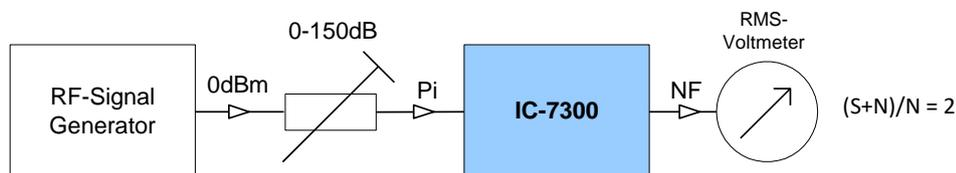

Fig. 1: Measurement setup to determine sensitivity (MDS, minimum discernible signal)
The measurement of the sensitivity (MDS = Minimum Discernible Signal) defines the noise floor of the receiver. If one applies a signal to the receiver input whose level (P_i) raises the receiver noise at the audio output by 3dB, then the power of the signal equals the noise floor, corresponding to $(S+N)/N = 2$. For this measurement one can use a signal generator with 0 dBm output level (**Fig. 1**), 0-140dB step attenuator and an RMS Voltmeter connected to the AF (NF) output.